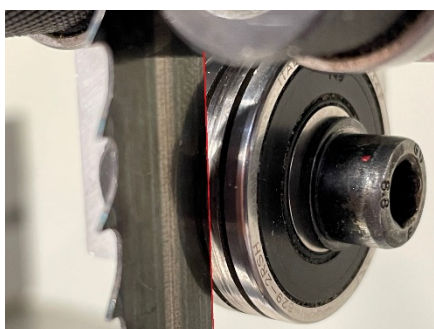

Figure 35
- Center the bearing so that the blade rests against the space between the two scrolling grooves (Fig 35)